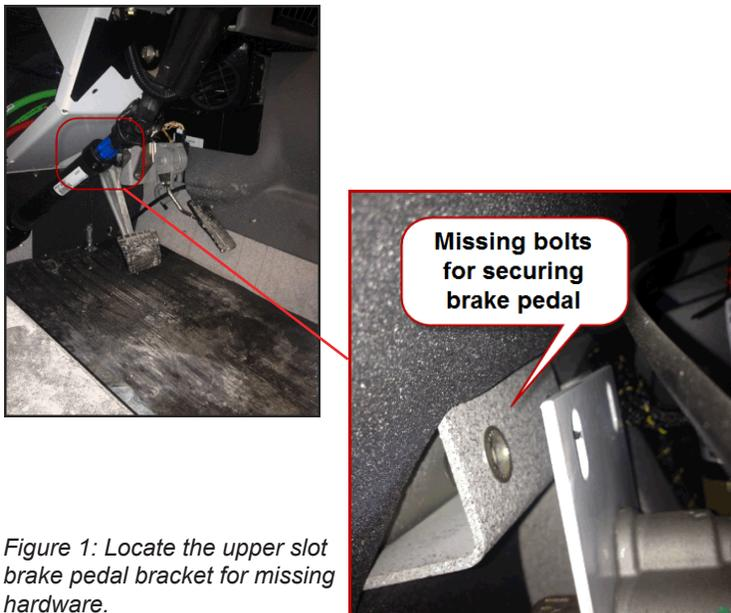

Figure 1: Locate the upper slot brake pedal bracket for missing hardware.
3. Determine if hardware is missing from the upper slots on the brake pedal bracket (Figure 1).